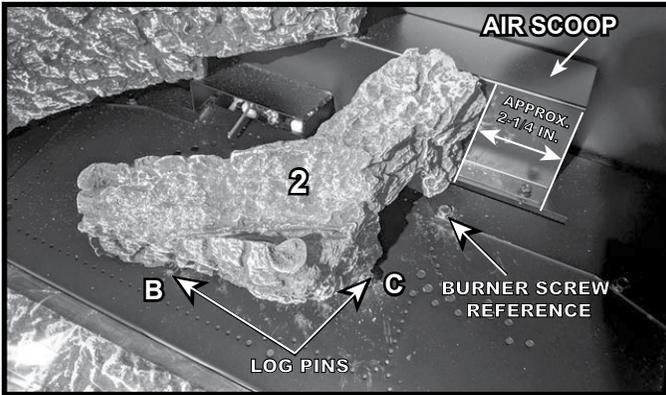

Figure 13 Log #2 Installed
**LOG #2:** With the bark end of Log #2 towards the back of the firebox, set the log onto the burner behind log pins B and C as shown in Figure 13. Rotate the log counter clockwise so that it contacts the air scoop, along with pins B and C.